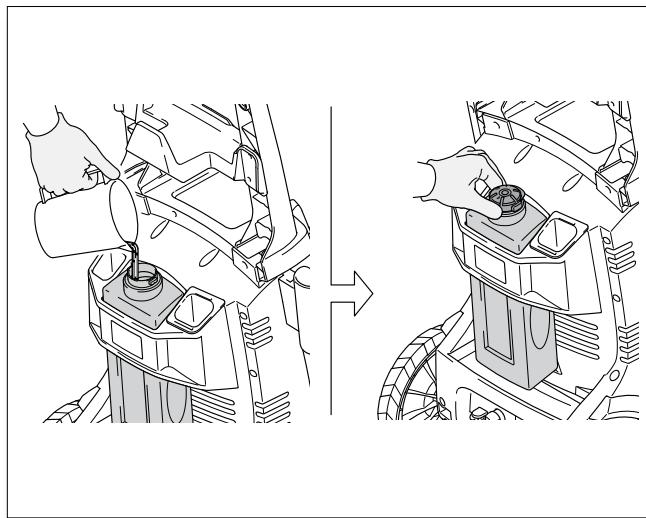

Fig. 13
- When using the detergent, fill it with a properly formulated detergent or cleaner with water ratio according to instructions on the container (Fig. 13). The detergent tank comes with a straw which is fitted into the screw-on top. If you don't see the straw, look inside the tank and attach it to the screw-on top, close detergent tank when done filling.